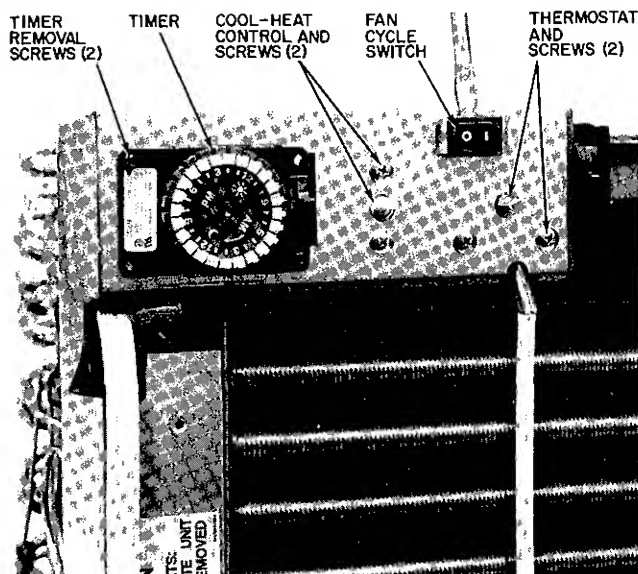

Fig. 11 — Control Locations
8 Timer — See location of timer in Fig 11
9 Cool-Heat Control — See Cool-Heat Control location in Fig 11
10 Fan Cycle Switch — See Fan Cycle Switch location in Fig 11
- a Remove fan cycle switch using screwdriver as shown in Fig 11
- 11 **Thermostat** — See Thermostat location in Fig 11